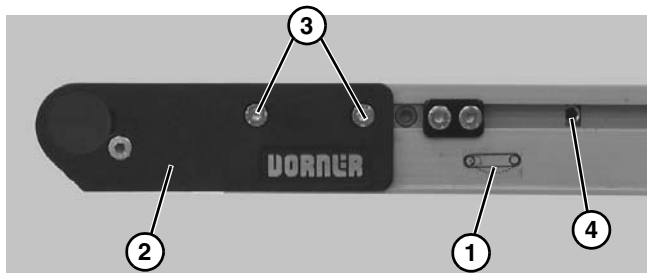

Figure 39
- On tension end of the conveyor, identified with a  label (**Figure 39, item 1**), adjust head plate assembly (**Figure 39, item 2**): On both sides of conveyor, loosen fastening screws (**Figure 39, item 3**) and rotate pinion gear (**Figure 39, item 4**) to adjust head plate assembly.